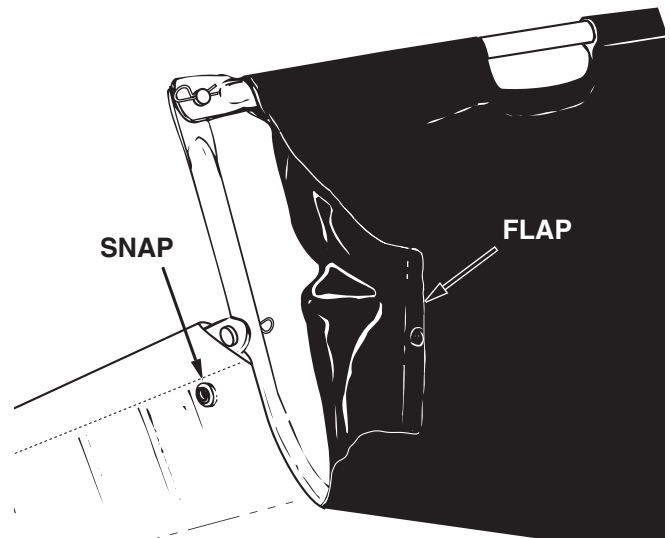

FIGURE 19
9. Fold the bag flaps around the lower hopper tubes and attach to the bag bottom using the snaps. See figure 19.